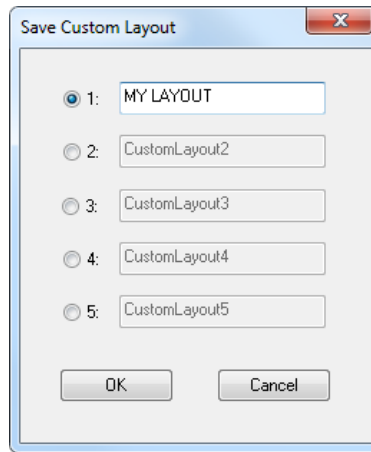

Figure 4-40 The Save Custom Layout dialog box
2. In the **Save Custom Layout** dialog box (see Figure 4-40 on page 266):